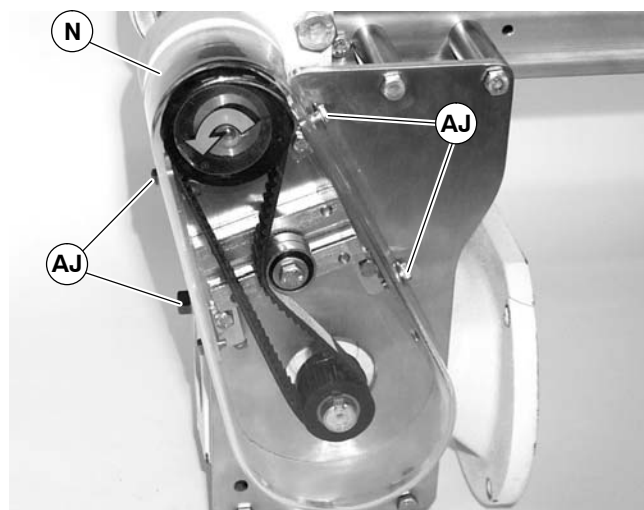

Figure 11
NOTE: Do not over-tighten screws (AJ of Figure 11).
6. Attach cover (N of Figure 11) with four screws (AJ). Tighten screws to 35 in-lb (4 Nm).